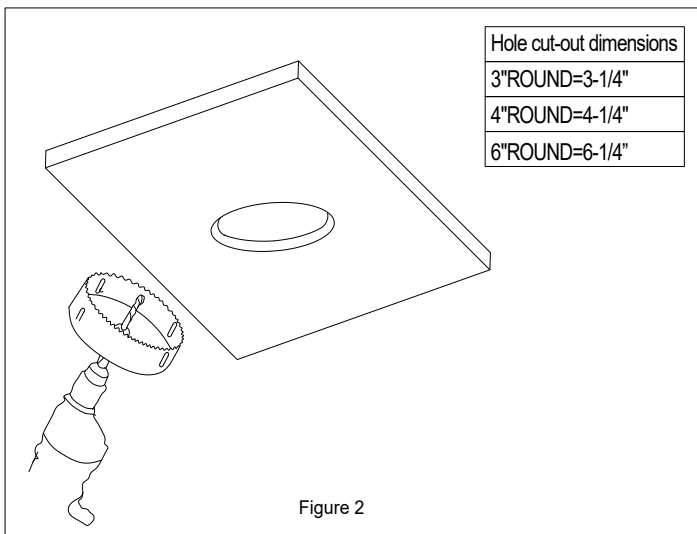

Figure 2
3. Place the included cut-out size template over the desired location and trace the hole onto the ceiling with a pen or pencil (not included). **See Figure 2.**